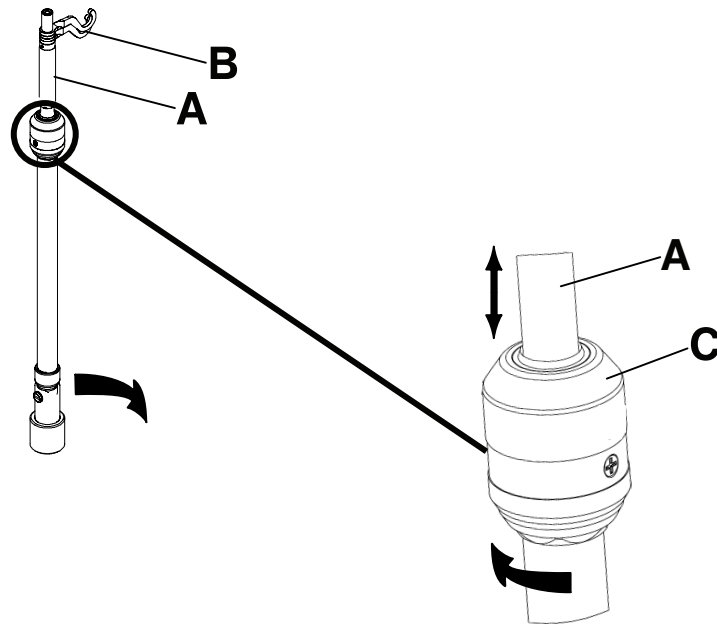

Figure 106 – Operating the IV pole
- To raise the height of the pole, pull up on the telescoping portion (A) until it locks into place at its highest height position (Figure 106).
- Rotate the IV hangers to the desired position and hang the IV bags (B).
- To lower the IV pole, turn the latch (C) until the telescoping portion lowers.